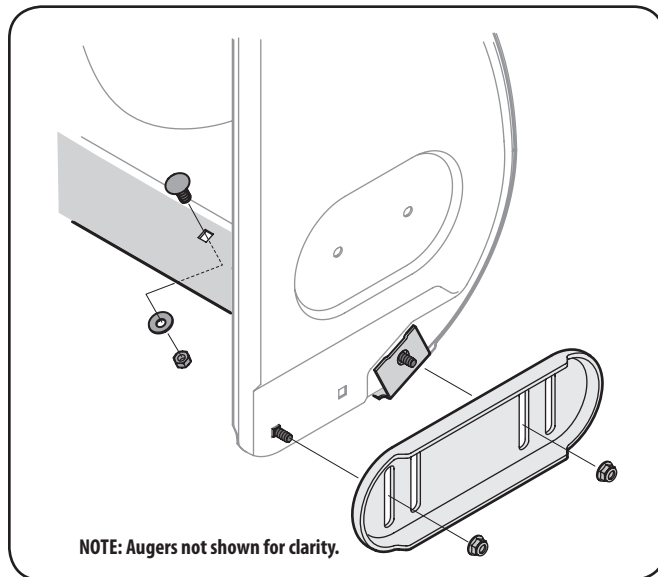

Figure 6-1
2. Rotate and reassemble skid shoes with the four carriage bolts (two on each side) and hex flange nuts. Refer to Figure 6-1.